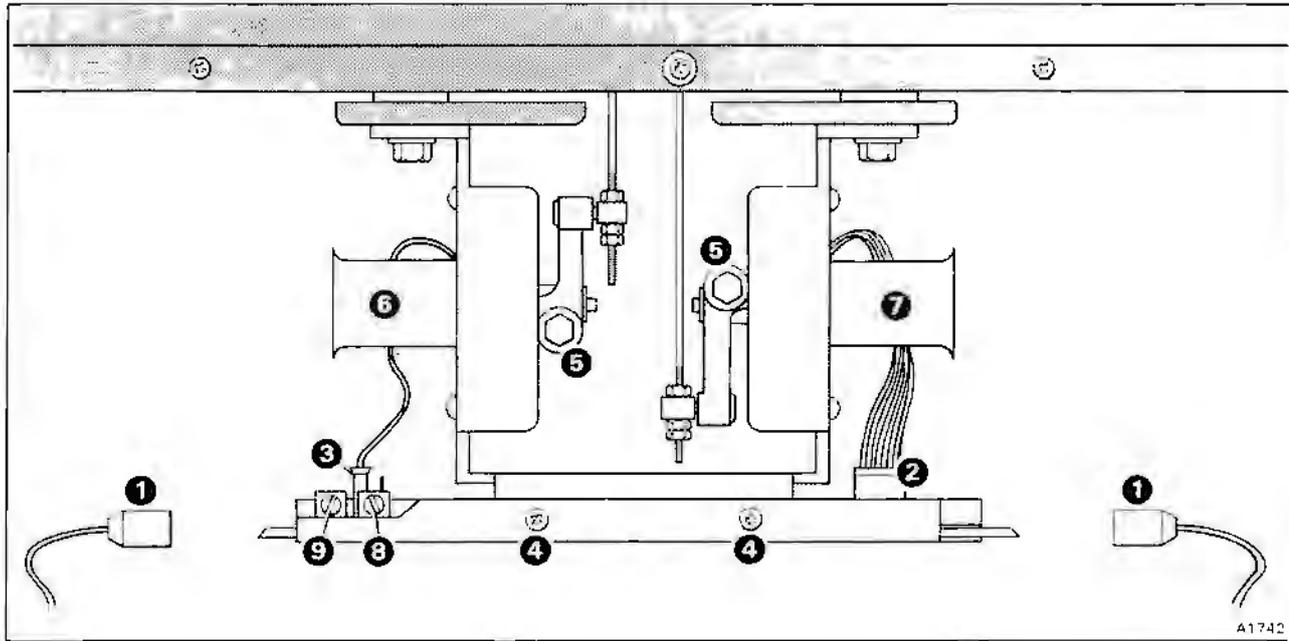

Fig. C4-4 Micro-processor and blend flap actuators assembly
Micro-processor board – To remove (see fig. C4-4)
Micro-processor initializing procedure (refer to figs. C4-4 and C4-5).
4. Slacken the actuator arm securing bolts at the upper and lower blend flap actuators (see fig. C4-4 item 5).
6. Select OFF position at the air conditioning function switch on the facia. The lower blend flap actuator (see fig. C4-4 item 6) will operate and continue to operate during procedure 7.
7. Rotate the lower blend flap potentiometer (see fig. C4-4 item B) throughout the full range of its travel, noting the portion of travel for which the LED (light emitting diode) on the micro-processor board (see fig. C4-5 item 1) illuminates.
9. Rotate the upper blend flap potentiometer (see fig. C4-4 item 9) throughout the full range of its travel, noting the portion of travel for which the LED on the micro-processor board illuminates.
11. Tighten the actuator arm securing bolts at the upper and lower blend flap actuators (see fig. C4-4 item 5).